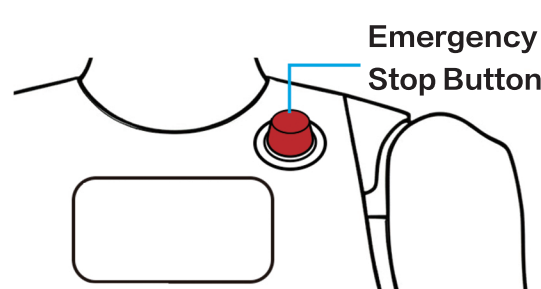

Figure 6
1. In the event of an emergency, immediately press down the emergency stop button on the back of the robot to lock all motors.(Figure 6)